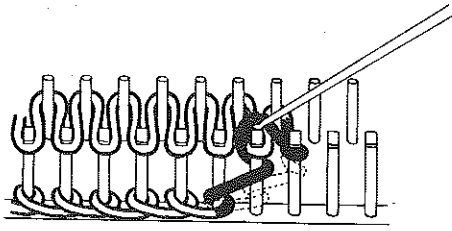
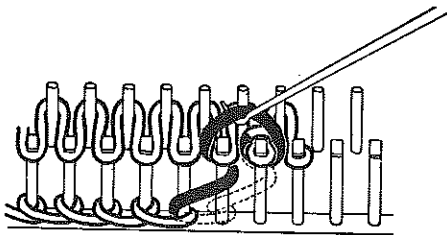

Fig. 13
Fig. 14
I. Starting from the **Right Hand** side, the stitches on the comb-base have to be lifted over the comb-pins with the aid of the Special Hook. The first stitch is to be lifted over **One** comb-pin **Only**. (Fig. 13.) All the following stitches have to be lifted over **Two** comb-pins. (Fig. 14.) The **Last Stitch** is lifted over as shown in Figs. 15 & 15/1, observing that the slip-knot is lifted over its own pin.